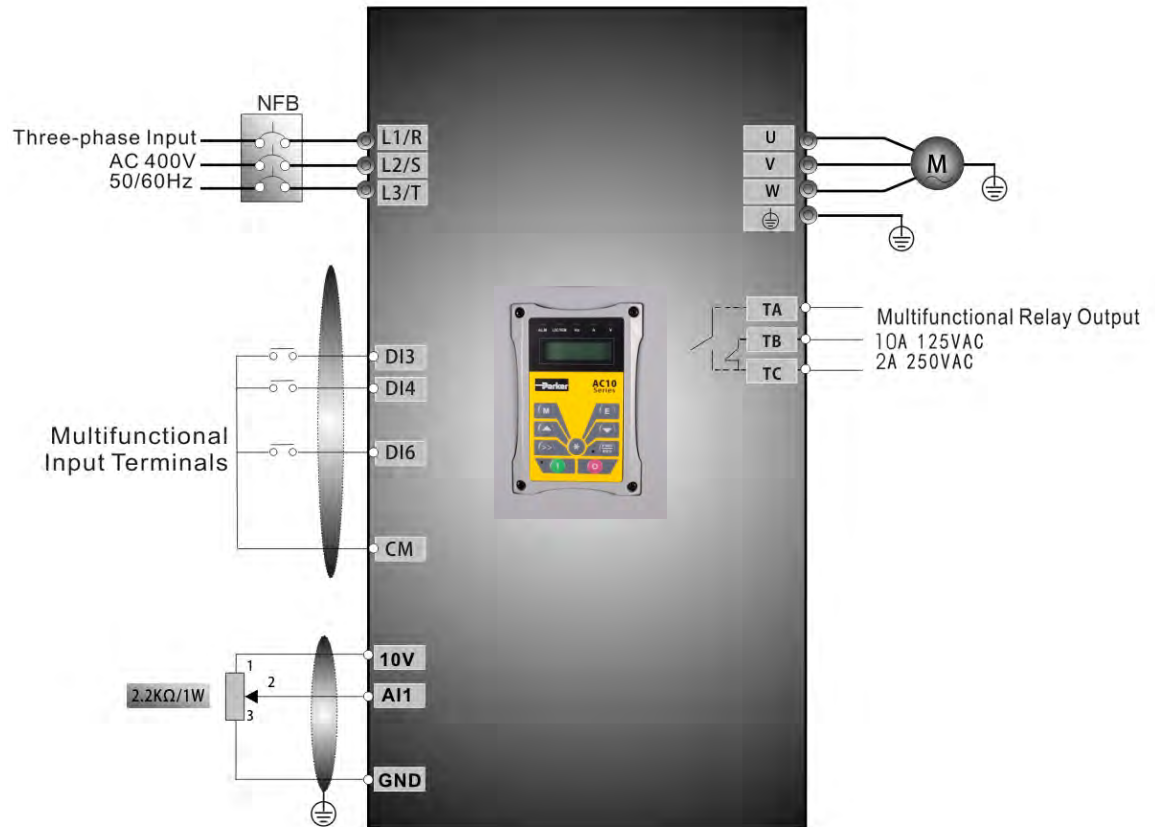

Figure 8-3 Wiring Diagram 3
- i. Connect the wires in accordance with **Figure 8-3**. After having checked the wiring successfully, switch on the mains supply, and power on the inverter. Note: 2K~5K potentiometer may be used for setting external analog signals. For the cases with higher requirements for precision, a precise multiturn potentiometer is recommended, and adopt shielded wire for the wire connection, with near end of the shielding layer grounded reliably.